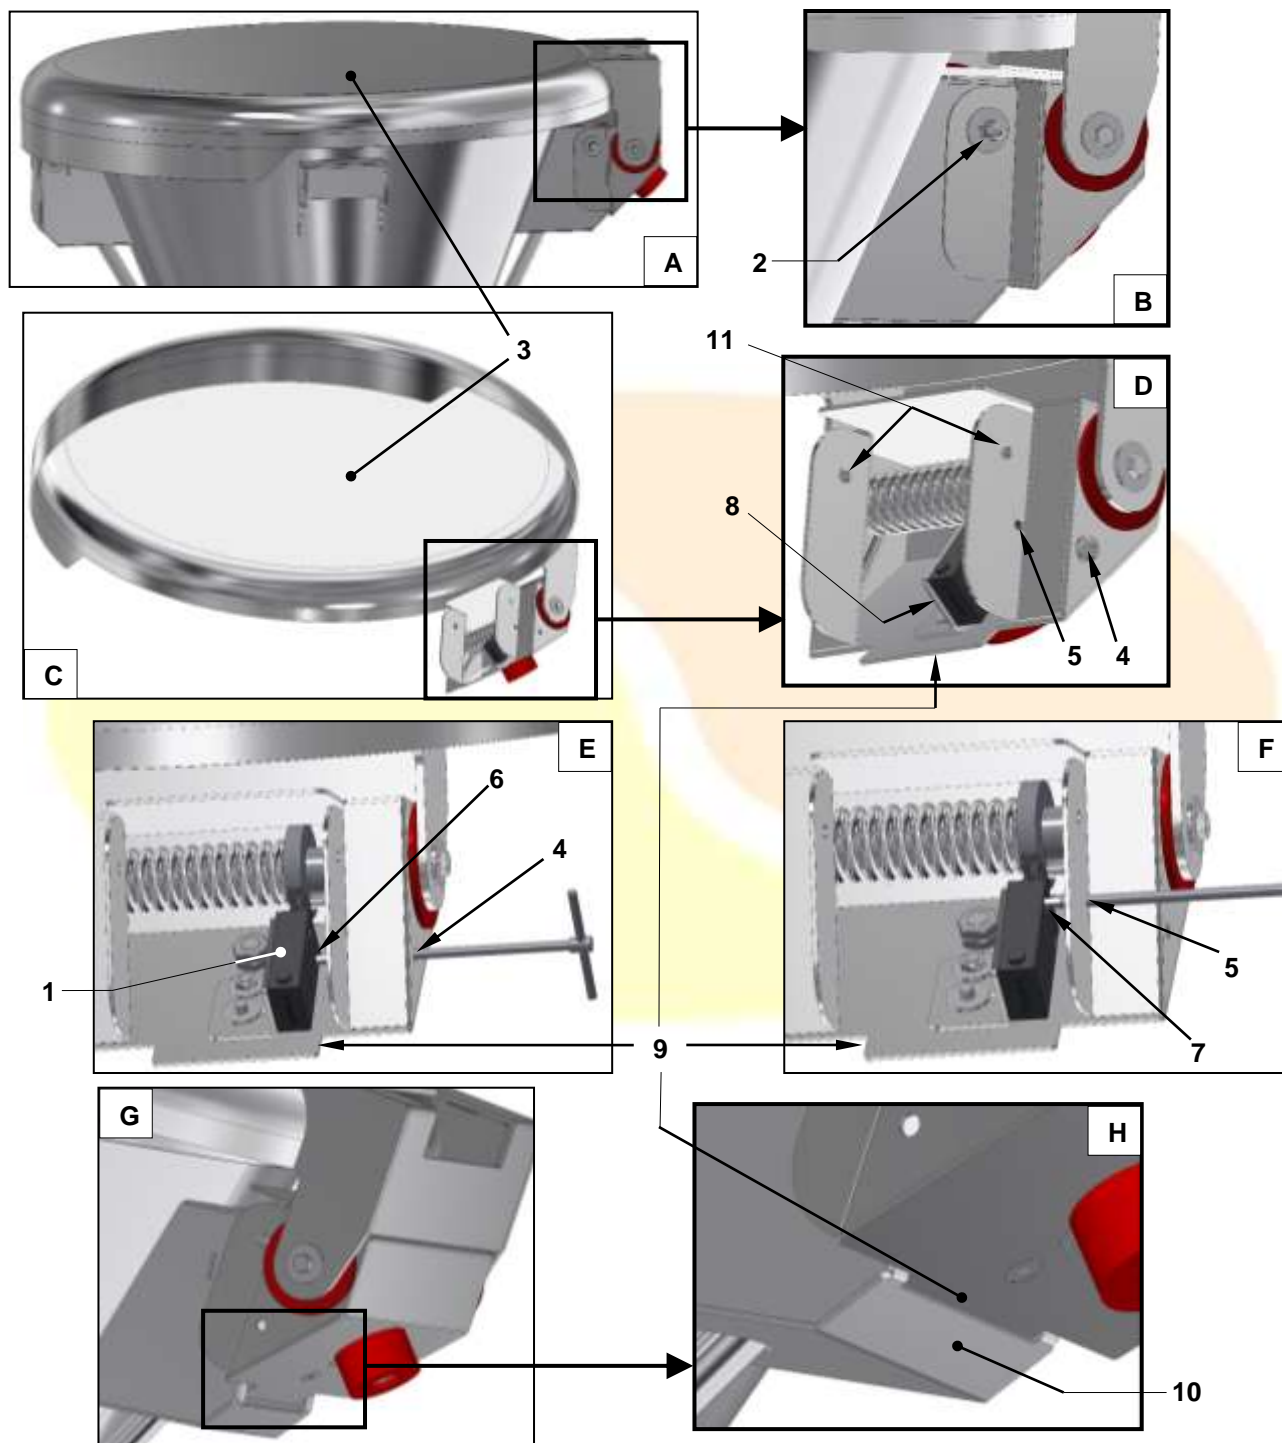

Figure 37 – Replacing the micro-switch associated with the hopper cover
With reference to Figure 37, to replace the micro-switch ref. 1:
1. Unscrew the nut ref. 2 (Figure B) and remove the relative stay rod on the opposite side
2. Remove the entire cover ref. 3 of the hopper (Figure C) and place it on the work bench (it weights approximately 9.2 kg). Take care to not fall when climbing down the ladder or off the table.
3. Pass through the hole ref. 4 with the wrench to loosen the first screw ref. 6 of the micro-switch ref. 1 (Figures D - E)
4. Pass through the hole ref. 5 with the wrench to loosen the second screw ref. 7 of the micro-switch ref. 1 (figures D - F)